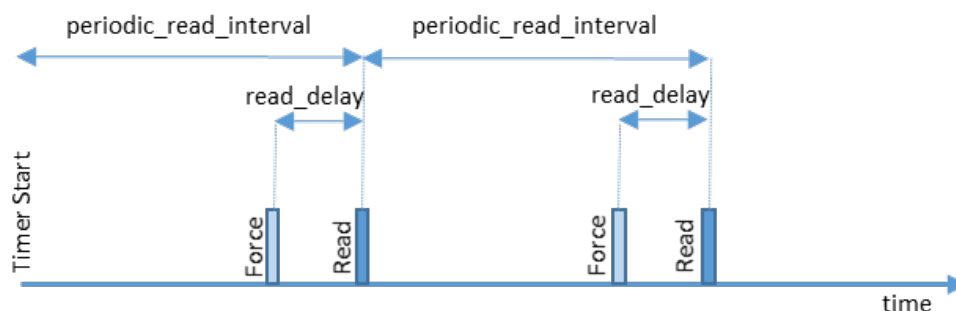

Figure 15: TIMED Sensors Timeline
- Figure 15 illustrates the timeline of a TIMED device to help users further understand the difference between force_read_fn and normal read_fn.